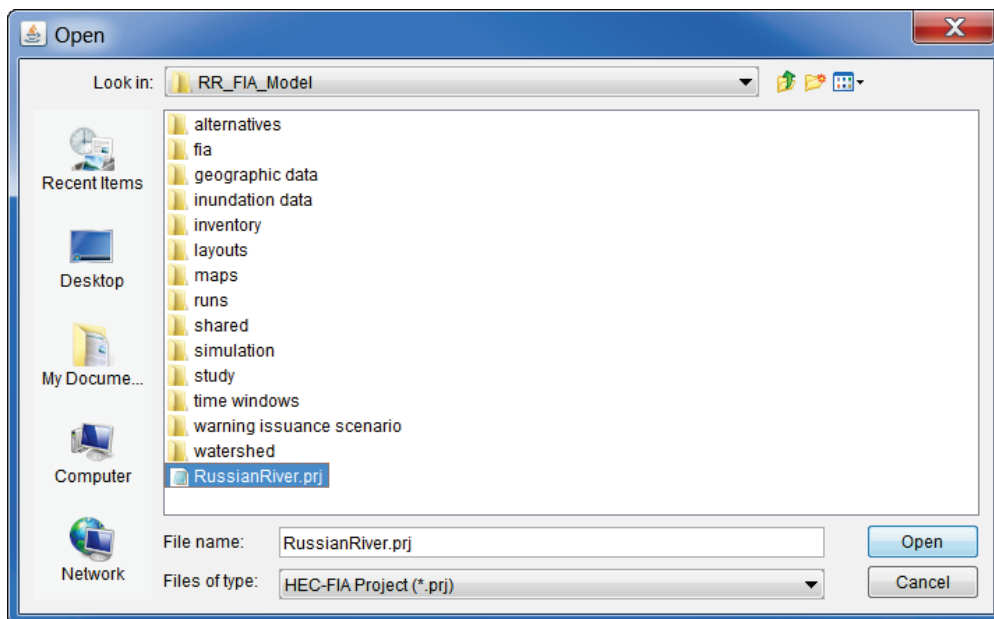

Figure 8.13 Open Browser
2. Click **Select/Add Project**, an **Open** browser will open (Figure 8.13). Browse to the folder that contains the HEC-FIA model to be imported. Once the correct location has been found, select the HEC-FIA project file (\*.prj). The HEC-FIA project filename will appear in the **File name** box (Figure 8.13), click **Open**, the **Open** browser will close.